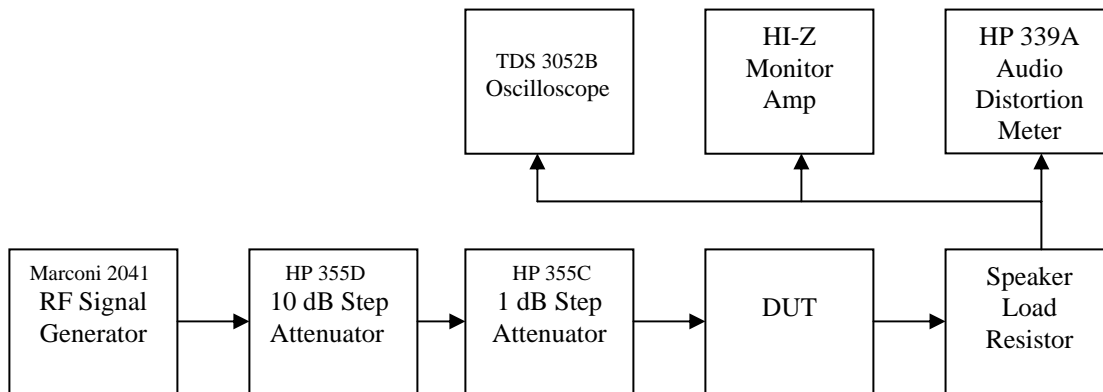

Figure 5-12: Audio and IF Frequency Response Test Hook-up
5.12.2 Test hook-up (See Fig. 5-12)